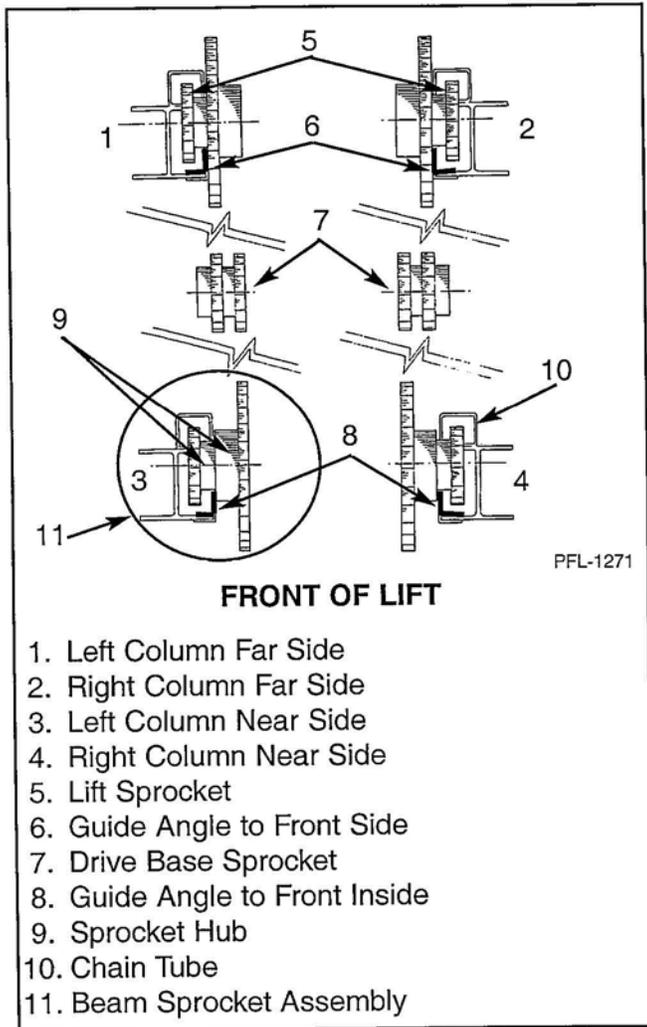

Figure 9
- Sprocket placement drawing shows view of lift from the top. The sprockets may or may not be pre-mounted to each column. If they are not mounted, bolt the column sprocket assembly to each column with the 3/4" hardware provided. Note that the near side column sprockets are assembled hub to hub and the far side column sprockets are not. See Figure 9.